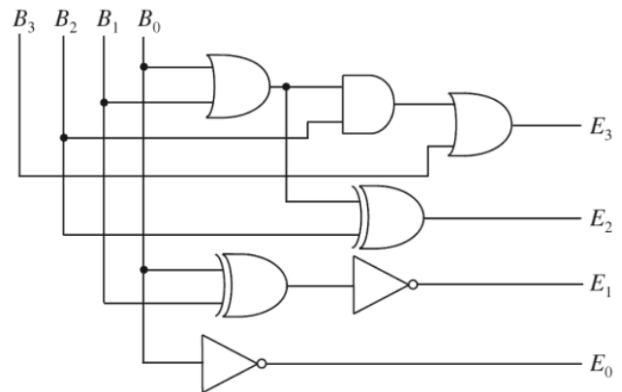

Figure 3.2
- The truth table for BCD to Excess-3 code converter is given in Table 3.2. Use Karnaugh maps to get simplified expressions for each binary bit as a function of gray code bits. **Verify the circuit given in Fig. 3.2 with your Boolean expressions.**
- Simulate the circuit given in Fig. 3.2. using OrCAD PSpice and add the simulation results to the report. **(Pay attention to the simulation notes given in the first experiment)**
- Simulate the circuit given in Fig. 3.2. using TinkerCAD and add the simulation results to the report. **(Pay attention to the simulation notes given in the first experiment)**
- iii. Implement the circuit given in Fig. 3.2 on your breadboard. Connect the inputs to switches and outputs to LEDs. Make sure that all ICs have proper power and ground connections.